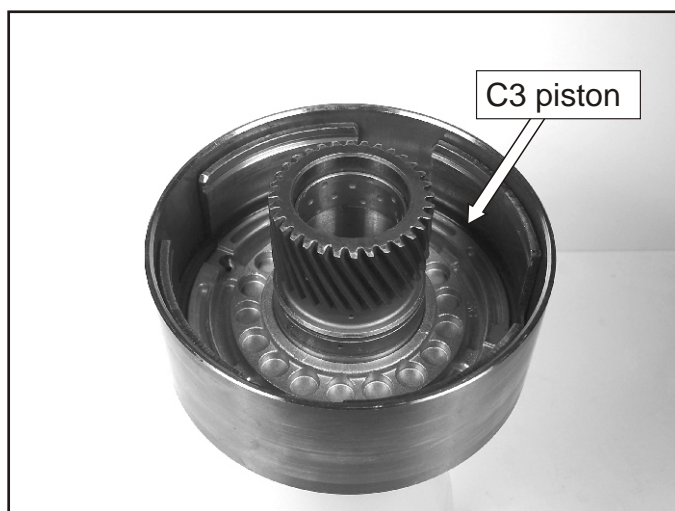

Figure 144
91. Install the C3 piston into the C3 drum as shown in Figure 144.